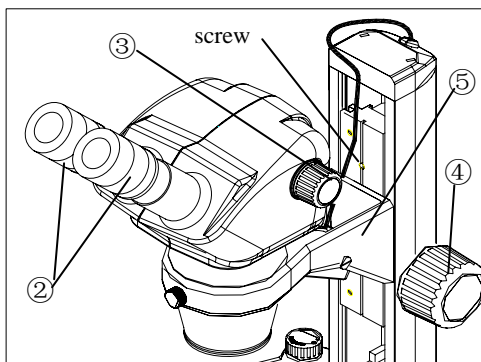

Fig6
3.1.2 diopter adjustment(fig.6)